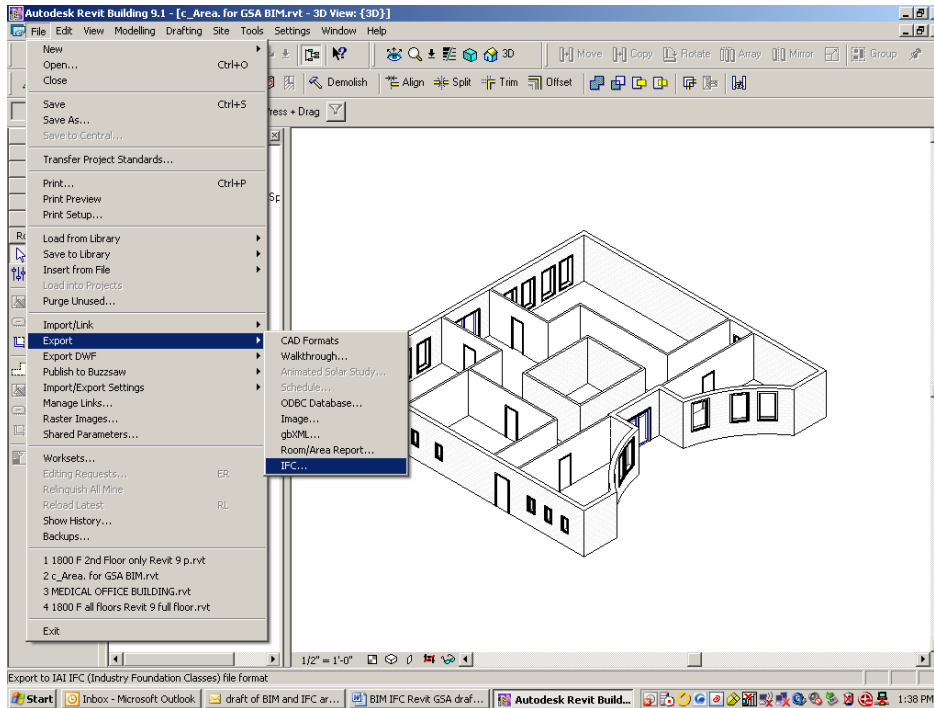

Figure 4:
- 4) The Revit building information model is then exported as IFC using the built-in IFC Import/Export capability of Revit (shown in Figure 4). The IFC export in Revit Architecture has been enhanced to export GSA-specific non-graphic spatial data to the IFC file.